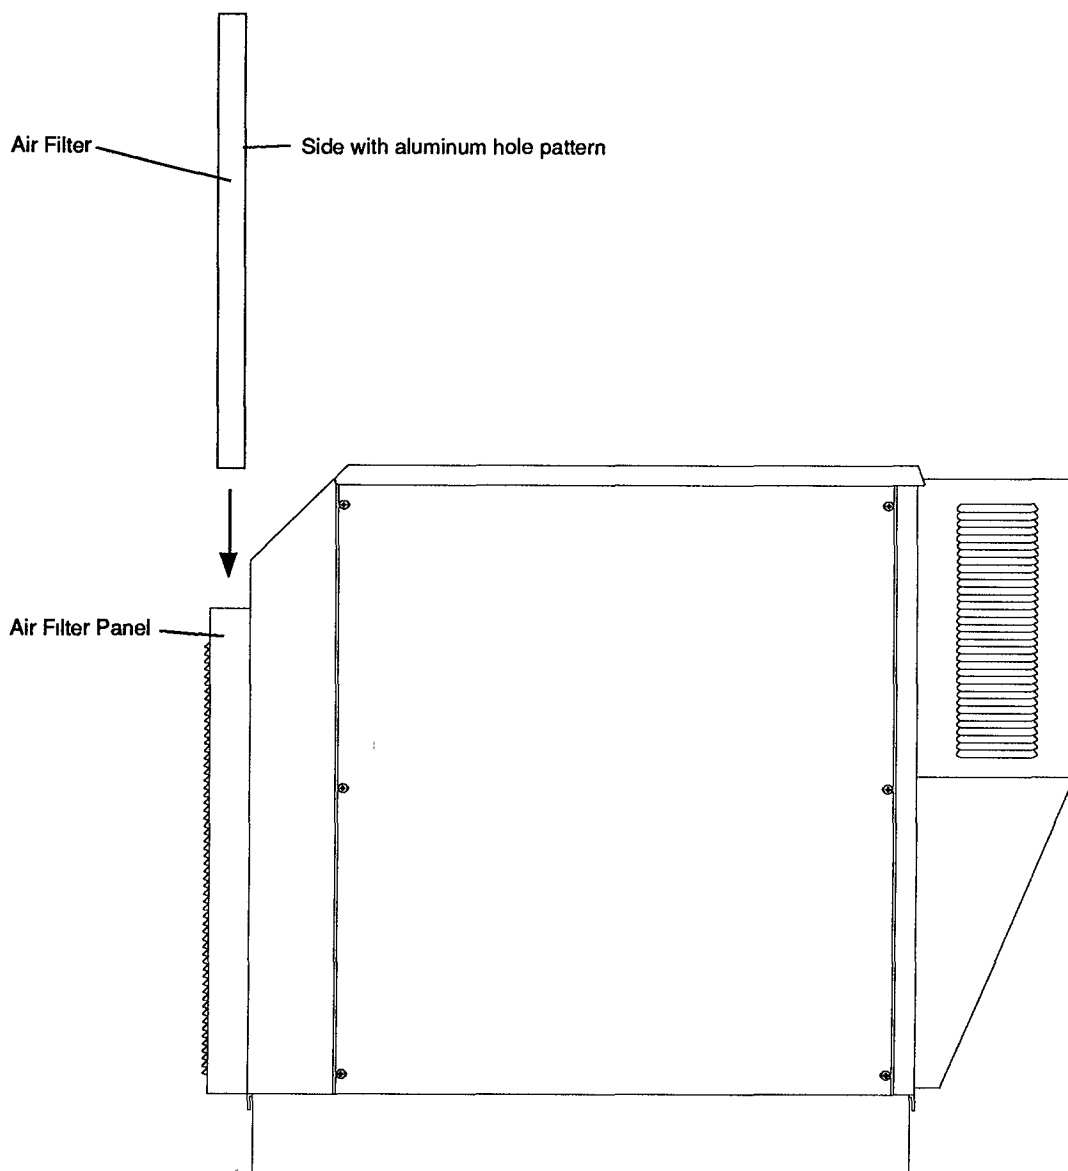

Figure 6 Inserting Air Filter into Front Filter Panel
2. Slide air filter into front filter panel as shown in Fig. 6.